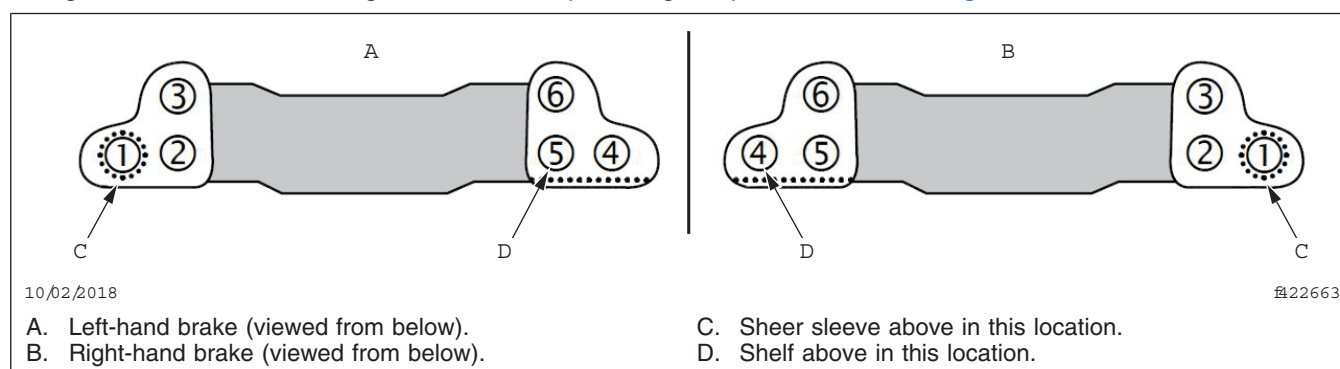

Fig. 4, Tightening Pattern, Bendix Radial Mounted Caliper
6. Tighten the carrier mounting bolts in two steps, using the pattern shown in **Fig. 4**.